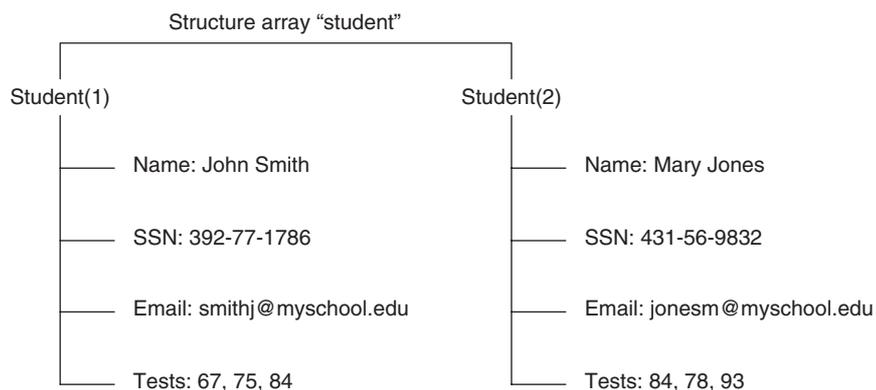

Figure 2.7-1 Arrangement of data in the structure array *student*.
A specific example is the best way to introduce the terminology of structures. Suppose you want to create a database of students in a course, and you want to include each student's name, Social Security number, email address, and test scores. Figure 2.7-1 shows a diagram of this data structure. Each type of data (name, Social Security number, and so on) is a *eld*, and its name is the *eld name*. Thus our database has four elds. The first three elds each contain a text string, while
**T2.7-1** Create the structure array `student` shown in Figure 2.7-1 and add the following information about a third student: name: Alfred E. Newman; SSN: 555-12-3456; e-mail: `newmana@myschool.edu`; tests: 55, 45, 58.